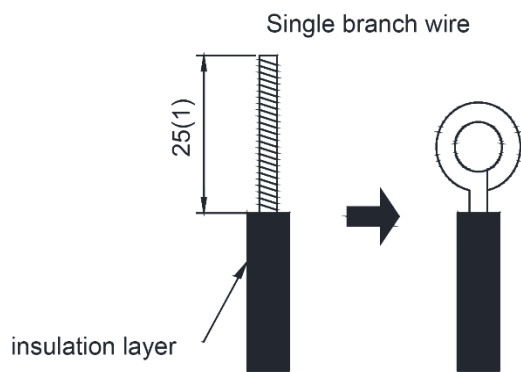

Fig 25
1. The connection of wire (as shown in fig 25)